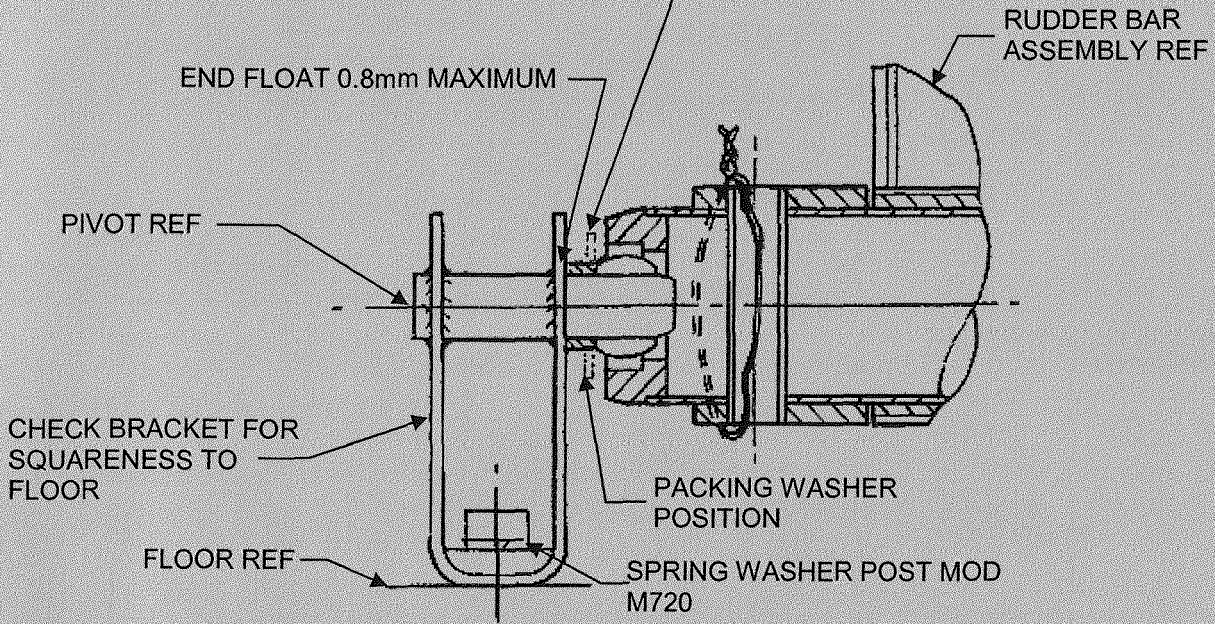

FIGURE 1
3. Check rudder pedal bar end float is no greater than 0.8mm. If it is greater than 0.8mm then rectify end float IAW paragraph 8. Refer Figure 1.
6. Should Rudder bar support bracket be damaged replace with new item. Ensure bracket is secured with a torque of 58lbf in (6.5Nm). Spring washers may be fitted; Mod M720 "Introduction of Spring Washers to Rudder Pedal Lay-shaft Mounting Bracket Screws" refers. See Figure 1.
8. Referring to Figure 1 ensure at each rudder bar pivot position that there is one spacer T67M-45-507 OR one off washer 126-23-748 and up to a maximum of two off washers 126-23-749, i.e. 3 washers maximum.